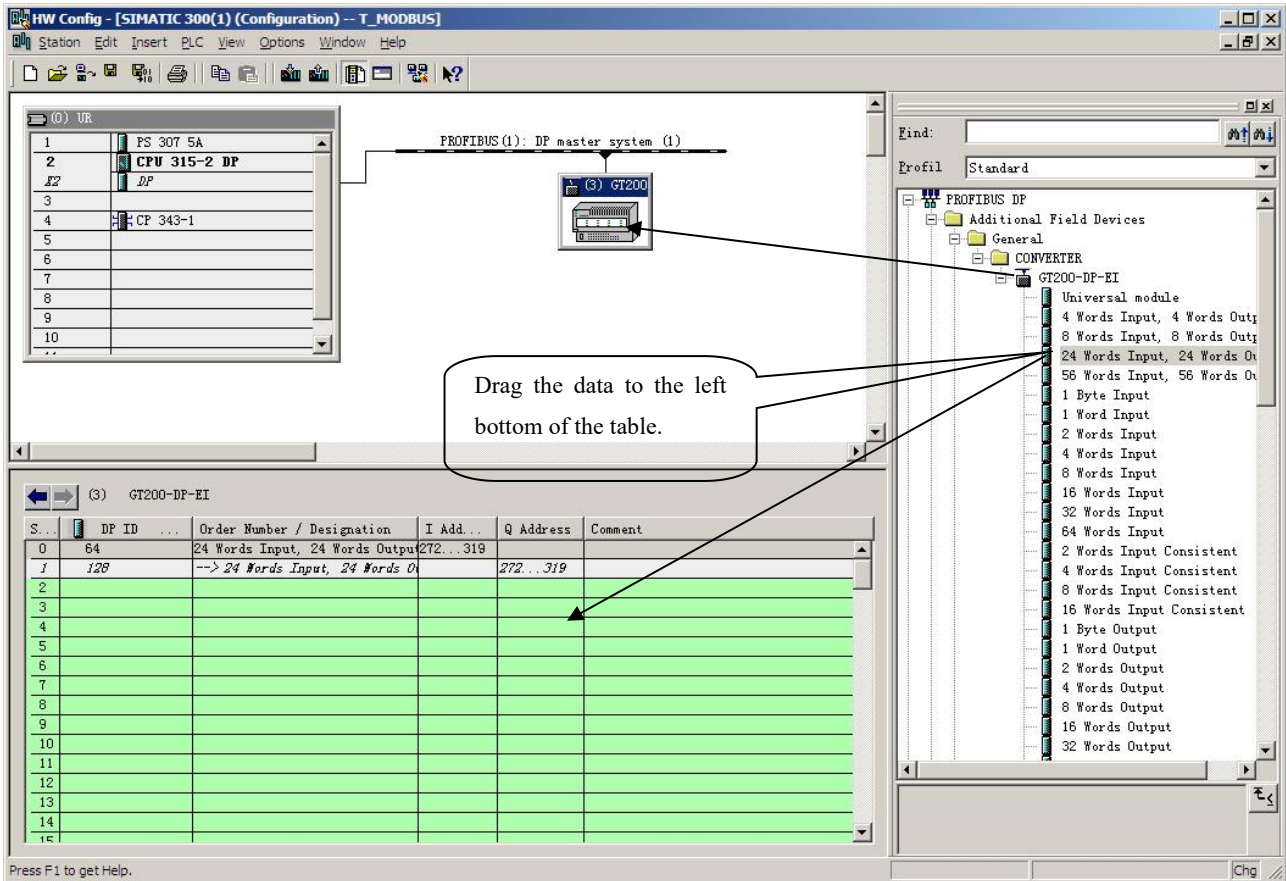

Figure 10
11. Drag GT200-DP-EI to PROFIBUS DP network bus, and drag data modules to a slot, that is mapping the input and output data module into master controller's memory. Figure 10: